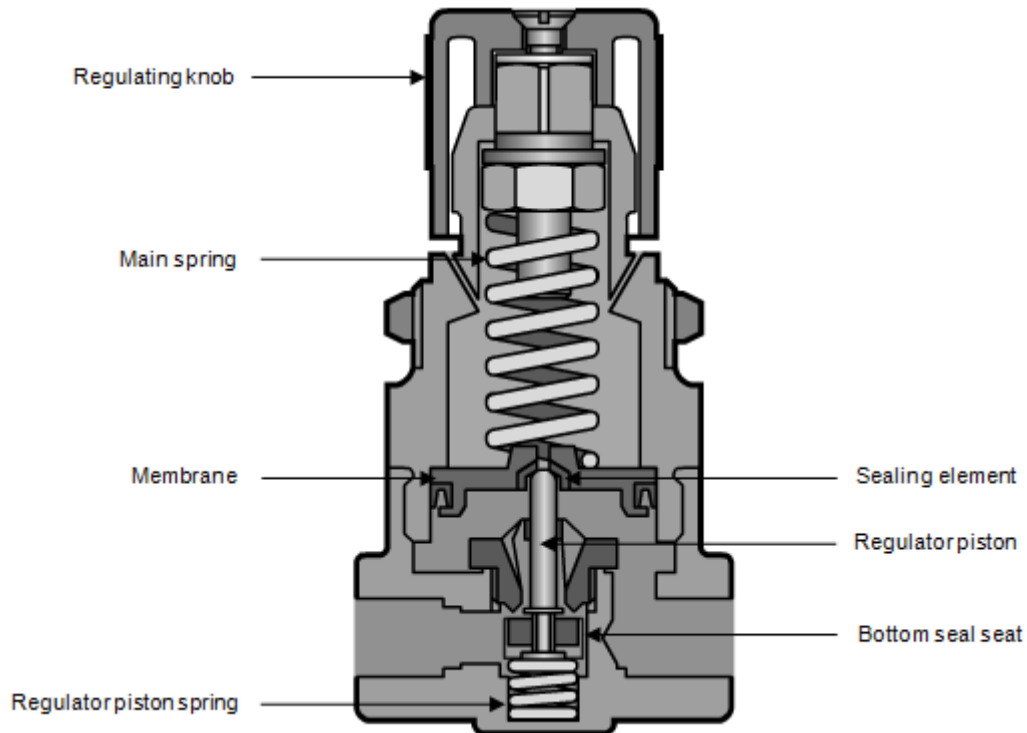

FIG 11.
A. The pressure regulator consist of the following components: (Fig 11 on the following page)